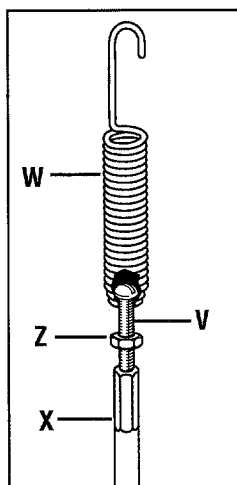
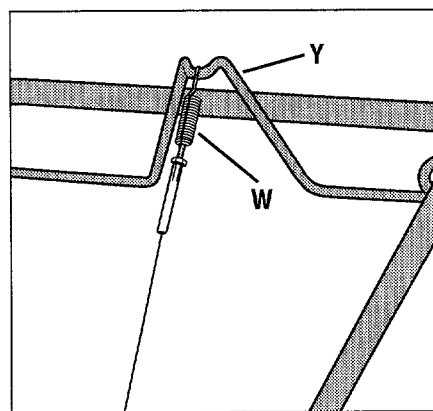

Fig. 2-5: Assemble spring and adjuster.
Fig. 2-6: Install forward clutch cable.
1	Spring, cable (see W, Fig. 2-5, page 8)
3. Insert the #10-24 x 2" slotted hd. screw (V, Fig. 2-5) into the cable spring (W) until the screw threads extend through the spring.
4. Thread the #10-24 hex nut (Z, Fig. 2-5) halfway onto the screw (V).
5. Thread the screw into the cable adjuster (X).
6. Hook the cable spring (W, Fig. 2-6) into the "V"-shaped bend in the Forward Clutch Bail (Y).
- With the Forward Clutch Bail (Y, Fig. 2-6) in an open (released) position, measure the length of the cable spring (W) from the outermost coil to the outermost coil.